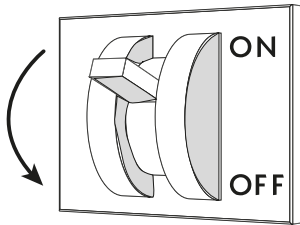

Fig. 35
- Disconnect the power supply to the cabinet using the wall-mounted main switch-disconnector ("Fig. 35").